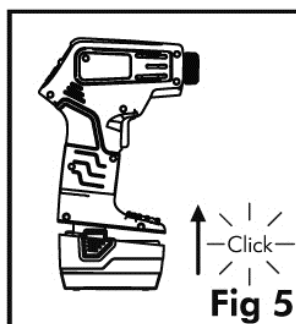

Fig 5
3. Slide the 12V DC car adapter pack into the air compressor until you hear a click (See Fig 5).